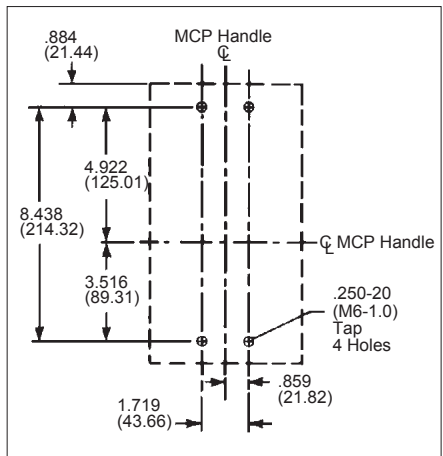
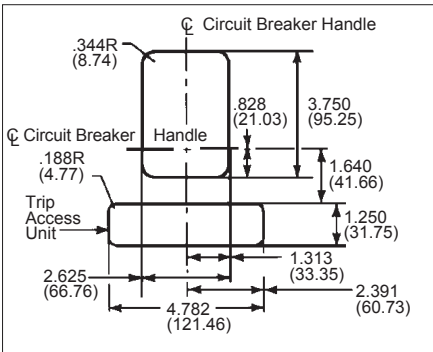

Figure 2-4 MCP Mounting Bolt Drilling Plans
Figure 2-5 MCP Escutcheon Dimensions
- a. For individual surface mounting, drill mounting panel using the drilling plan shown in Fig. 2-4. For deadfront cover applications, cut out cover to correct escutcheon dimensions. (See Fig. 2-5.)